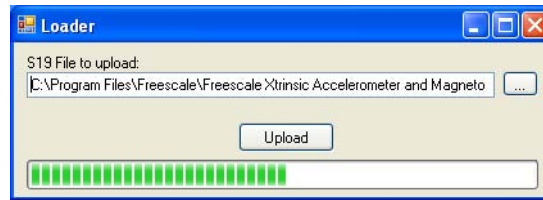

Figure 3. Upload progress screen
b) Click OK, and the firmware upload progress window appears as shown in Figure 3.